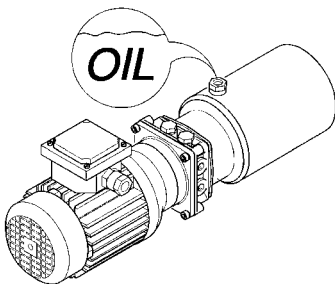

Fig.53
3. Check hydraulic oil level once a month (fig.53).